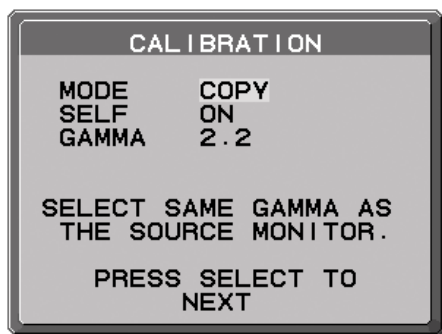

Figure C.7
6. Using “LEFT” or “RIGHT” of Display B, select COPY in the MODE selection (**Figure C.7**). Select ON of OFF in the SELF selection. If ON selected, SELF Calibration execute with COPY Calibration.